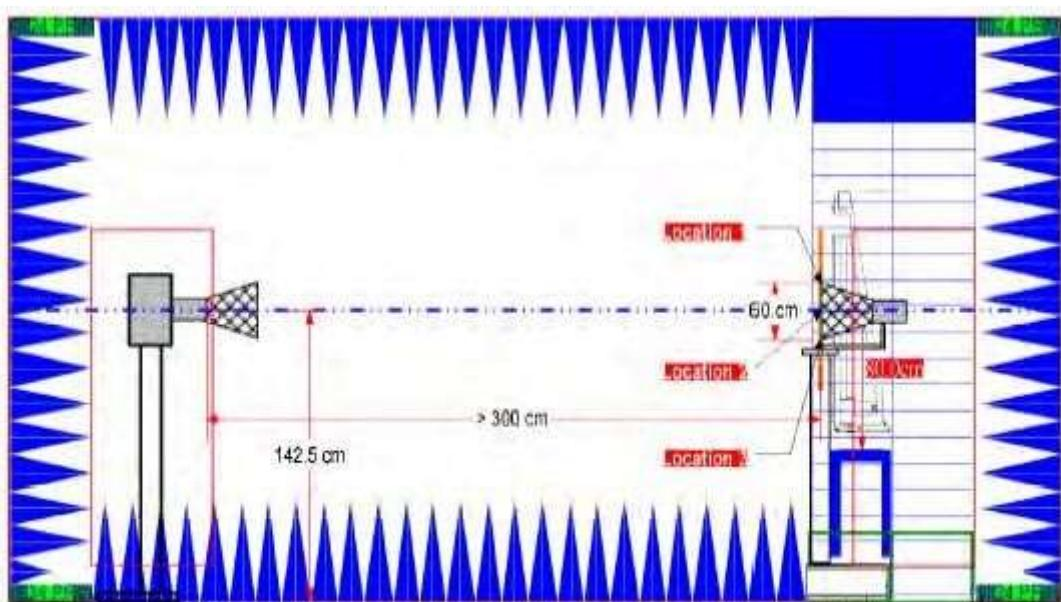

Fig.1. The interior components of the anechoic
- (2) Fig. 1. shows the interior components of the anechoic chamber. The antenna standard antenna as probe and antenna under test is 3M. The antenna under test is fixed on a step rotator. We can control the rotating angle for accurate or rough measurement.
- (3) While we measure the radiation patterns by rotating AUT with 360 degrees and repeat again by replacing the AUT with the standard gain antenna under test, we compare both data and using a formula to obtain the